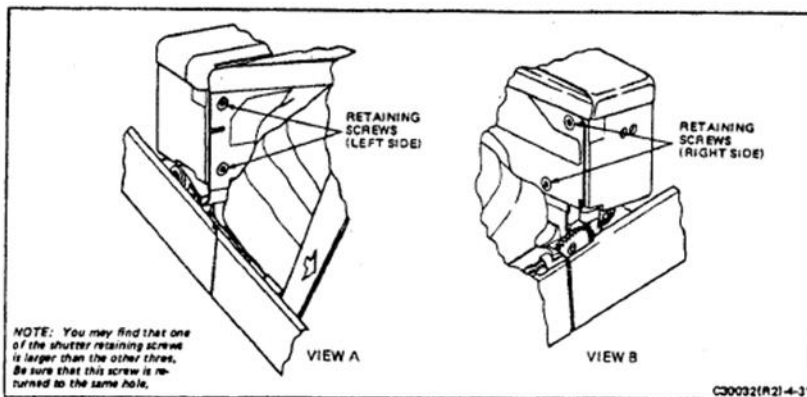

FIGURE 4-31 SHUTTER MOUNT RETAINING SCREWS
- c. At the back side of the shutter mounting bracket, remove four screws which secure the shutter (Figure 4-31).
- c. Align the shutter on the mounting bracket and secure it by installing the four screws previously removed (Figure 4-31).
12. At the backside of the shutter mounting hinge bracket, remove the four screws which secure the shutter to the bracket. See Figure 4-31. Lift off the shutter.
- Hook in the spring and push it in as far as possible. Arrange the spring coils without stress and clamp them in the bracket (Figure 4-31).